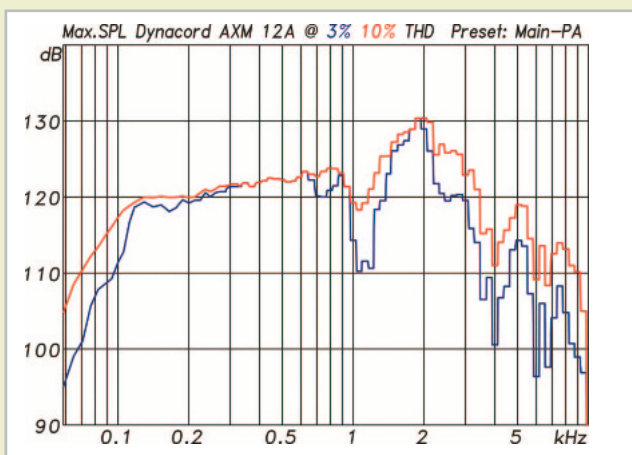

Fig. 10: Maximum level with a maximum of 3% (blue) and 10% (red) THD
Hz and 2 kHz, the two curves in Fig. 10 largely coincide. Here, the 10% limit had still not been reached when the limiter in the box put a stop to any further increase in the level. Beneath 200 Hz and above 2 kHz the two curves diverge clearly, as here, due to the large excursion (LF) or compression (HF), more distortion occurs. Overall the path of the Maximum SPL curve is nicely even and constant. Loud in the midrange and falling off lightly at the edges, the response is as you would expect from a monitor. Beneath 100 Hz, the AXM 12A begins to weaken slightly, which is hardly surprising given the size of the box. No one would expect any more in this area—or even want it for monitoring applications. For monitoring drums, of course, a little help from a subwoofer would not go amiss. The measurement with the multi sine wave signal with the EIA-426B spectrum and a 12 dB crest factor yields for 99 dBA equivalent continuous sound pressure level at a distance of 2 m under free field conditions 8% distortion. At a distance of 1 m, that equates to 105 dBA or 110 dB(lin). The peak level is 12 dB higher here at 122 dB. With this, however, the potential of the box has still not been exhausted. If you push it to the